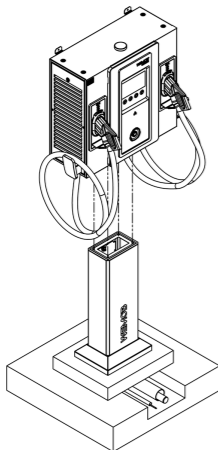

Figure 4.10: Example of mounting the WEMOB-STATION (60/80 kW) on the totem
After the totem is mounted to the concrete base, the charging station must be mounted. This should be done through the four (4) mounting points on the station, using four (4) M6 hex screws. The recommended tightening torque is 10 Nm to ensure a secure attachment for both the charging station and the operator, as shown in Figure 4.10.